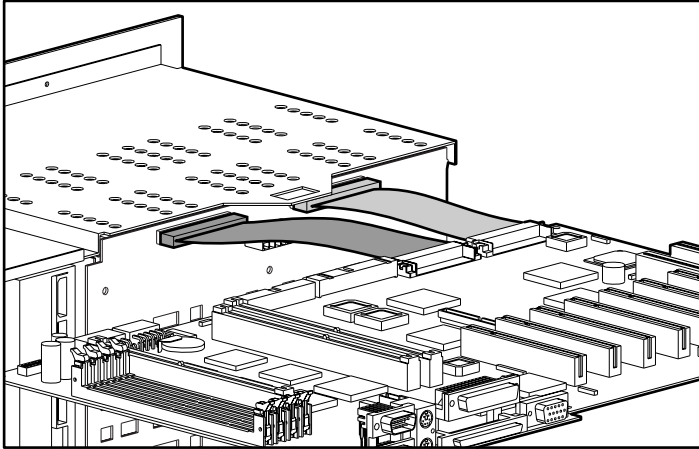

Figure 4-18. Example cable connection to SCSI controller
12. Connect SCSI controller cables. See *Cabling Guidelines for Compaq ProLiant 3000 Servers* for more information on connecting SCSI cables. Figure 4-18 shows an example controller connection.